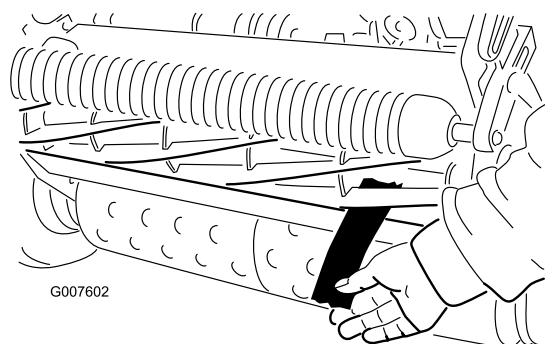

Figure 45
4. On one end of the front side of the reel, insert a long strip of newspaper between the reel and bedknife (Figure 45). While slowly rotating the reel forward, turn the bedbar adjusting screw clockwise (on the same end of reel, one click at a time, until the paper is pinched lightly, when inserted from the front,
6. After the adjustment is accomplished, check to see if the reel can pinch paper when inserted from the front and cut paper when inserted at a right angle to the bedknife (Figure 45). It should be possible to cut paper with minimum contact between the bedknife and the reel blades. Should excessive reel drag be evident (more than 7 inch-lb (0.79 N•m), either backlap or grind the cutting unit to achieve the sharp edges needed for precision cutting; refer to the Toro reel sharpening manual.